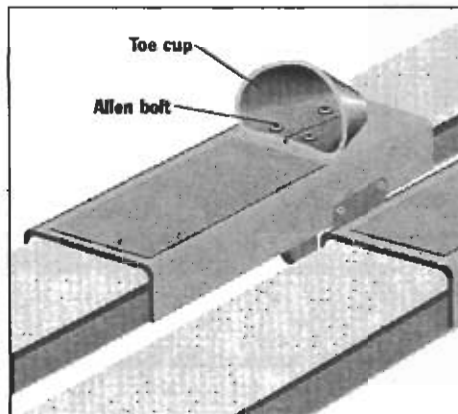

Figure 6
1. Use a 5/32-inch Allen wrench to remove the four Allen bolts on the toe cup (Figure 6).